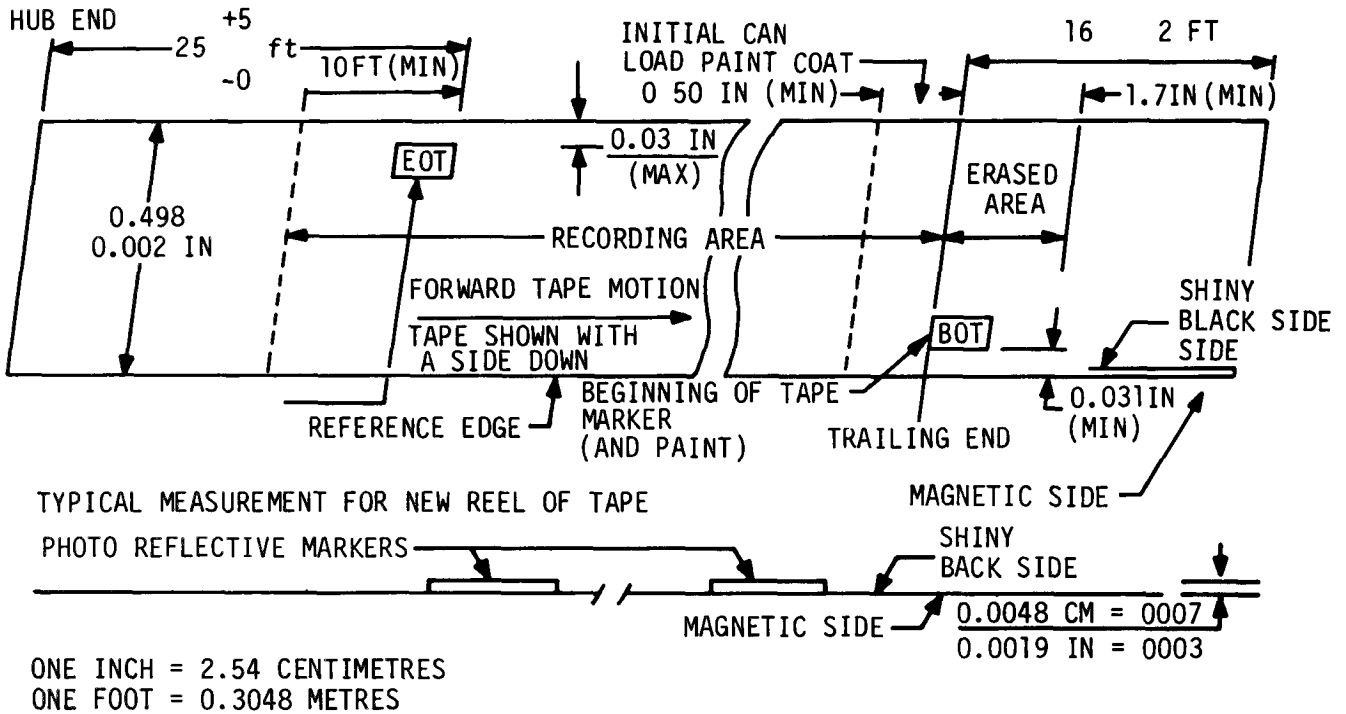

Figure 2-6. Magnetic Tape Layout
(3) Every magnetic tape should have a BOT and EOT marker firmly attached to the tape (fig. 2-6). These markings should be checked after cleaning or after every tenth use. Replace any marker which is loose or missing.